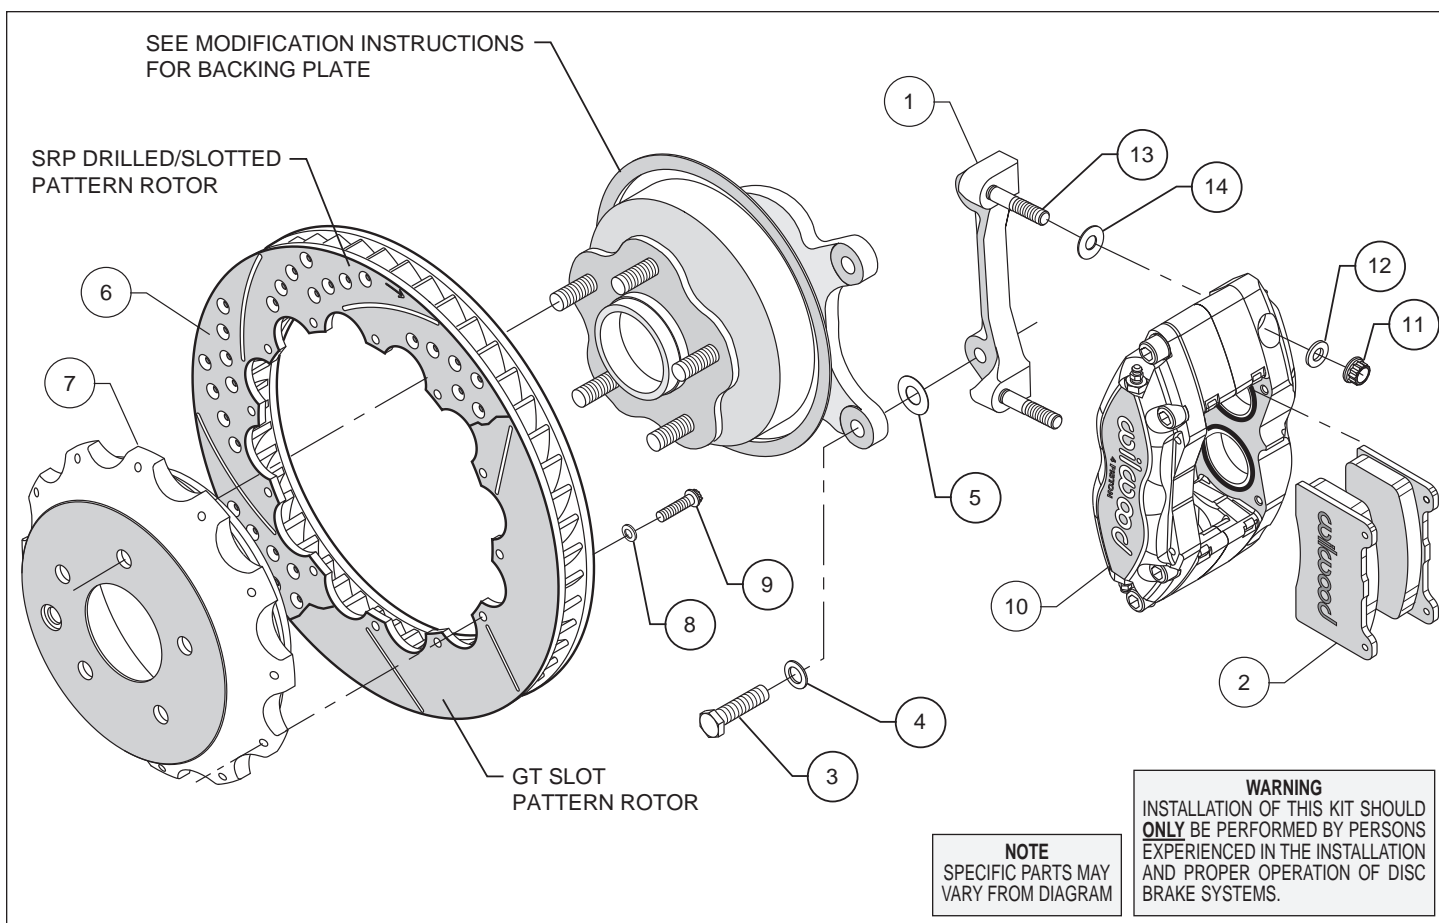
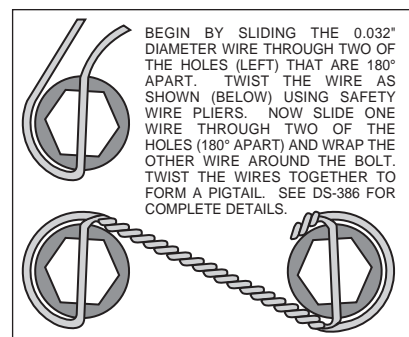

Figure 1. Typical Installation Configuration
Figure 3. Safety Wire Diagram
- The caliper mount bracket assembly (1) should be installed first with clean, dry threads on the mounting bolts. Install the bracket from the rear side of the hub by sliding bolt (3) through washer (4), and through the OEM caliper mounting bracket ears, then through shim washer (5) and into the bracket (1). The bracket must tighten squarely against the inboard side of the caliper mount bosses on the upright. Inspect for interference from casting irregularities, machining ridges, burrs, etc. Use one thin shim (5) between the bracket and upright during initial trial fitting. Later, after the caliper, pad, and rotor alignment has been checked, and any necessary shims have been put in place, the mounting bolts should be coated with red *Loctite*® 271 and torqued to 60 ft-lbs.
- Assemble the rotor (6) to the hat (7) with the bolts (9) and washers (8) as indicated in the configuration pictured in Figure 1. Using an alternating sequence, apply red *Loctite*® 271 to the threads and torque bolts to 140 **in-lb**. For an added measure of security, the bolts may be safety wired using standard 0.032 inch diameter stainless steel safety wire as shown in Figure 3. Please refer to Wilwood's data sheet DS-386 (available at www.wilwood.com/Pdf/DataSheets/ds386.pdf) for complete safety wire installation instructions.
- Install one shim (14) over each stud (13) on the radial mount bracket (1). Slide the caliper (10) in place over the studs and rotor and install the washer (12) and lock nut (11) to hold the caliper in place. Snug the lock nuts (11) and check that the rotor (6) is centered in the caliper (10). Add or subtract .015" shims (5) as necessary between the caliper mount bracket (1) and the caliper mount bosses on the upright assembly to center the caliper.
- Remove the quick-clip pad retainer from the caliper. Slide the brake pads (2) into place. They should install easily without interference. Check that the outside radius of the brake pad is aligned with the outside diameter radius of the rotor face. Add or subtract shims (14) between the caliper and mount bracket to gain the proper alignment. Reinstall the quick-clip pad retainer.
- Once all clearances have been checked, remove the wheel, caliper, hat, and rotor from the axle flange. Secure the caliper mounting bracket (1) to the OEM caliper mounting ears using red *Loctite*® 271. Torque the bolts to 60 ft-lbs. Reinstall the hat and rotor assembly and again use several lug nuts to hold it in place. Lubricate caliper mounting studs and nuts with lightweight oil, reinstall the caliper, torque the caliper nuts (11) to 30 ft-lbs.